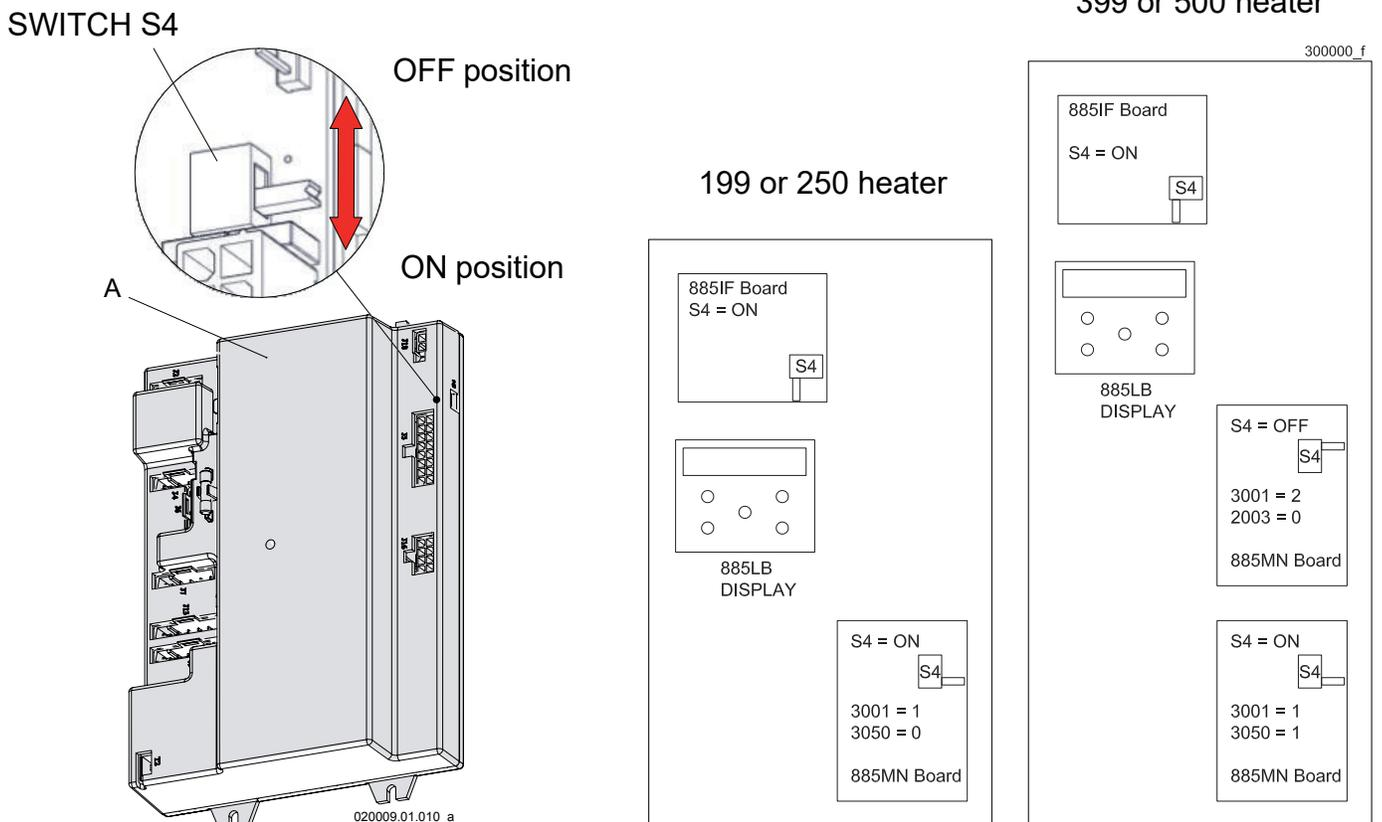

Figure 17-13 Control board "A" and complete situation of addresses and switches S4
9. move "Switch S4" as per Figure 17-13, from OFF position to ON position;